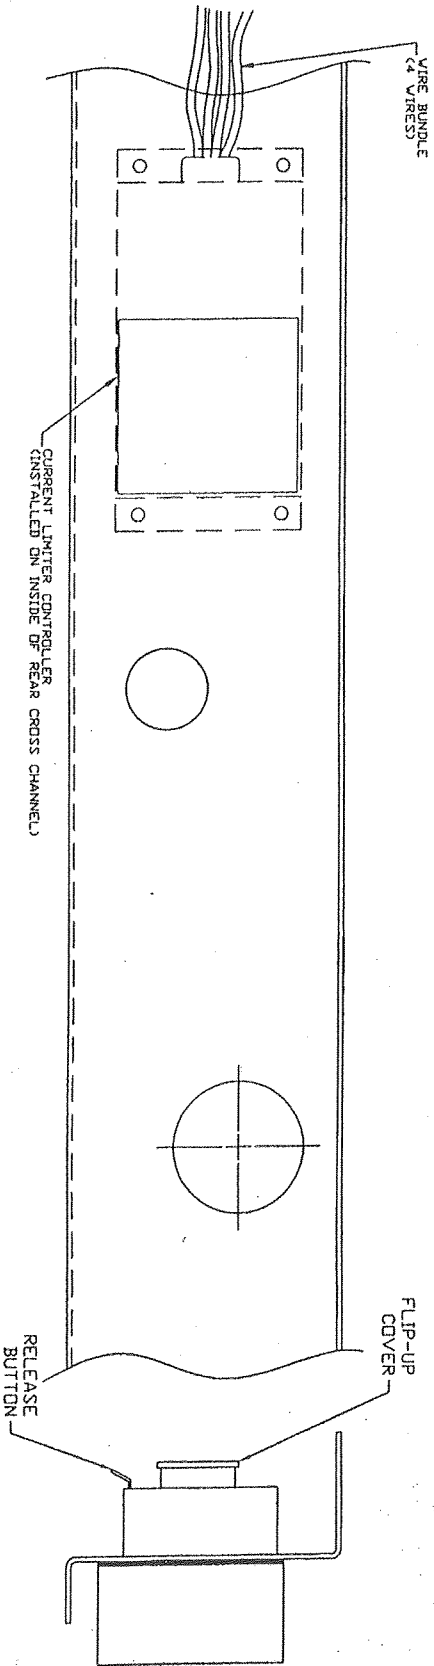

FIGURE 5
3. Place the current limiter (BMC P/N 30897) with the cover plate on the inside of the rear cross channel so that the holes line up. Attach using the four black 3/16" Rivets (4734J186). Make sure to mount the current limiter with the wires on the left of the box as shown in Figure 5.